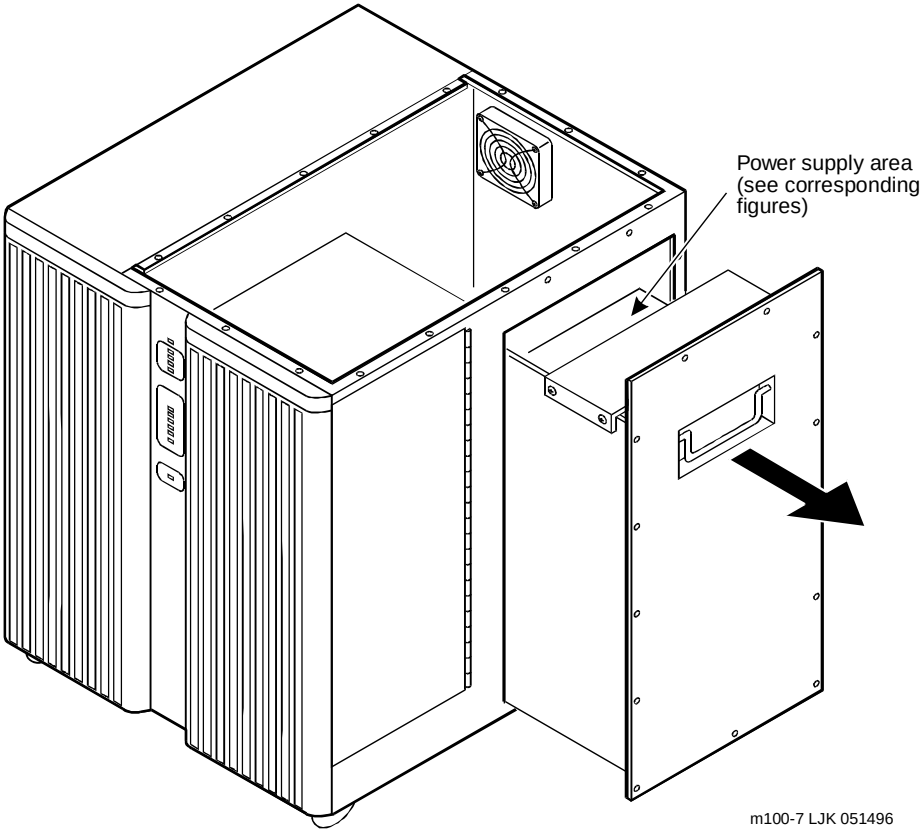

Figure 7-14. Battery Backup Type Power Supply
The power supply with a UPS provides 110/220-VAC and is located behind the peripheral bay. The UPS is a battery included with the power supply. Both the power supply and the battery are housed within a removable module (Figure 7-14).
7. Loosen the 13 1/4-turn fasteners around the perimeter of the Power Supply A chassis (Figure 7-14).
2. Slide the power supply chassis into the MAP/100. Leave the power supply chassis extending from the MAP/100 (Figure 7-14).